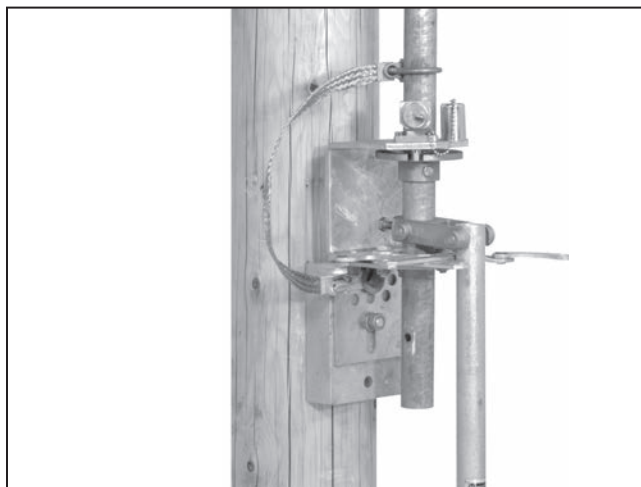

Figure 53. Disengaging the key interlock bolt.
- (a) If the operating handle assembly is furnished with a key interlock, disengage the interlock bolt. See Figure 53.